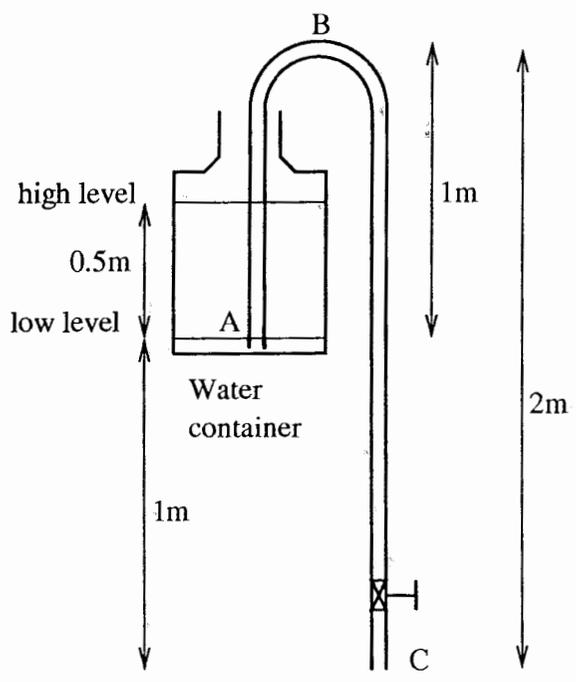

Figure 3 (for Question 3)
3. A 8 mm diameter, 3 m long (AB+BC) smooth walled tube is inserted into a 0.5 m^3 capacity water container kept on a high table, as shown in Figure 3. The water flows out through the tube. The minor loss coefficient, k_l , is 0.3 at the entrance 'A' to the tube and 2.5 for the fully open valve. The dynamic viscosity of water is $1 \times 10^{-3} \text{ Pa.s}$.